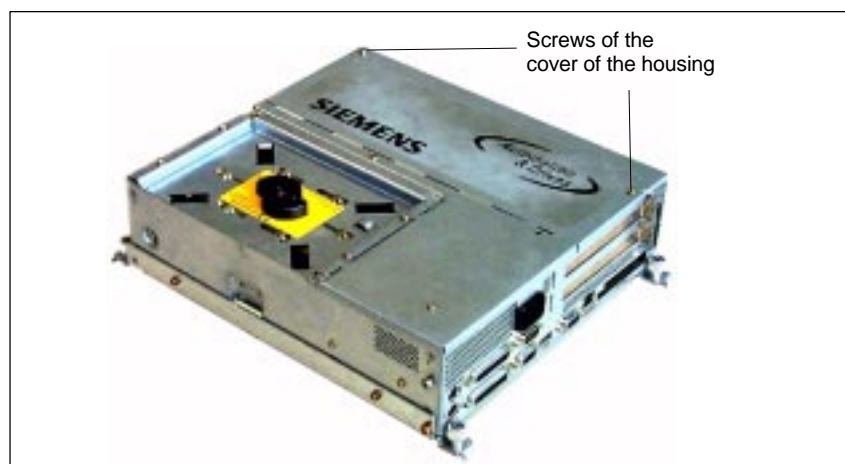

Fig. 2-2 Cover of the housing of the PCU 50
4. Remove the screws from the cover of the housing (Fig. 2-2) and open the housing of your PC, following the relevant safety regulations.